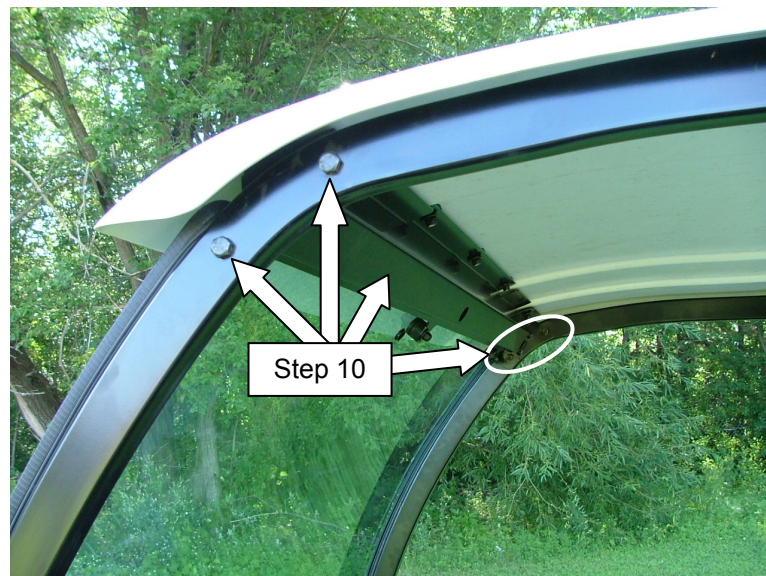

Figure 4
10. Place front cross member inside side frame tubes and secure using (**Figure 4**);